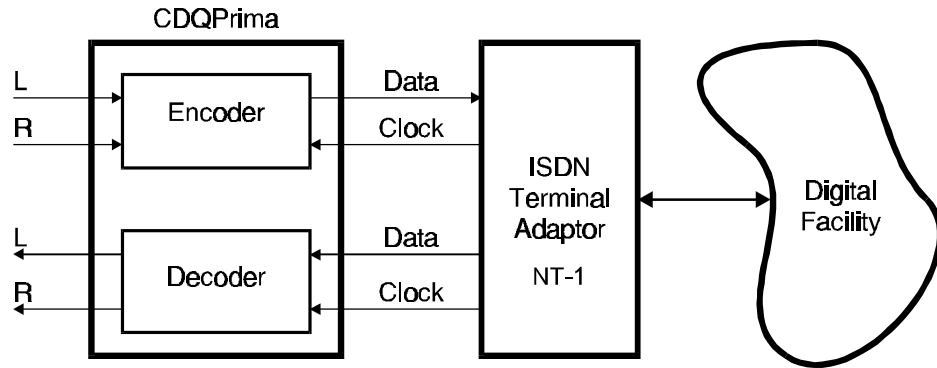

Figure 3-1 Basic Interconnection to Digital Network - RS422/V.35
**T**he **CDQPrima** may be equipped with a variety of digital interface modules for ISDN, leased circuits, and other transmission media (including V.35 and X.21/RS422 protocols). In addition, since the RS422 interface is electrically compatible with industry standard RS449 equipment, the **CDQPrima** X.21/RS422 adapter can be used with RS449 equipment with the addition of an adapter cable. Each of these digital interfaces requires clock and data to be exchanged between the **CDQPrima** and the terminal equipment. **The *CDQPrima* always expects the clock to be provided by the terminal equipment; therefore, only terminal equipment that provides clock data can be used.** The encoder section outputs data synchronized with the clock and the decoder expects the data to be synchronized with the clock. Figures 3-1 and 3-2 show the interconnection of the **CDQPrima** with a generic piece of terminal equipment. The timing relationships are shown in the **CDQPrima** Technical Reference Manual.